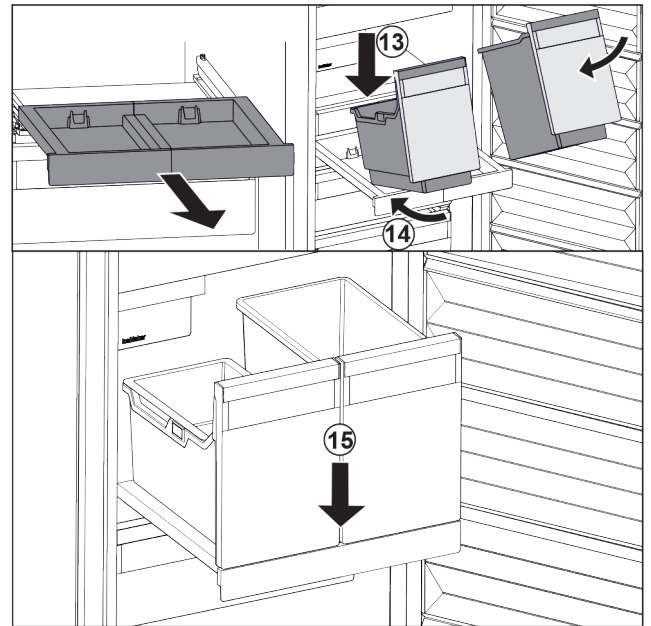

Fig. 200
- ▶ Place the container at an angle on the pull-out board. Fig. 200 (13)
- ▶ Slide the container to the back at an angle. Fig. 200 (14)
- ▶ Place container in the front. Fig. 200 (15)